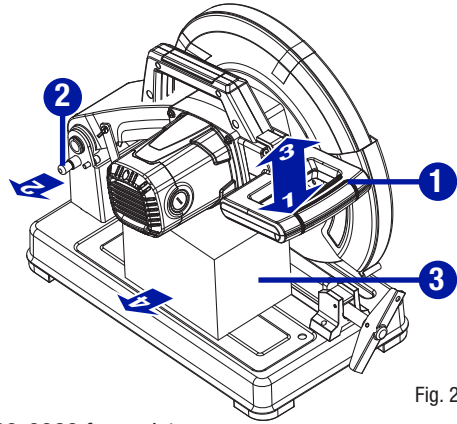

Fig. 2
- This machine has been shipped with the machine arm secured in the down position. To release the machine arm, push down on the "D" handle (1) and unlock the head lock button (2) as shown in Fig. 2.